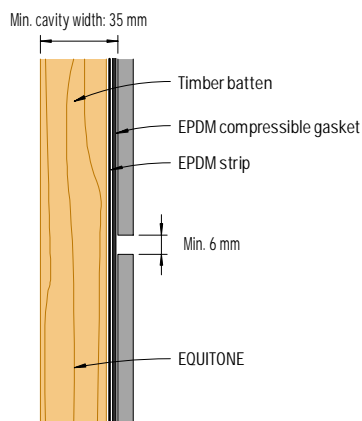

Figure 3: Open horizontal joint
- 1) Horizontal open joint detail (Figure 3 & 4) requires project engineer's evaluation and approval, and selection of appropriate UV resistant weather resistive barrier (membrane).